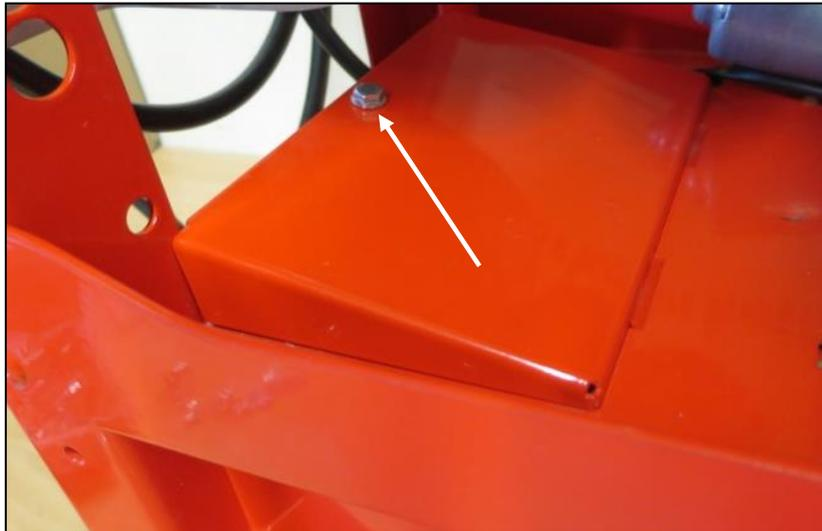

Fig.: 130
- Then loosen the bolt marked in Fig.: 130 and remove the cover to reach the connectors on the multi-metering unit.